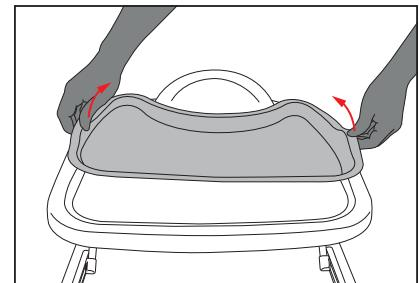

Figure 5.1
- To remove the tray insert, flex handles inward, push thumb down on the inner edge of the tray and pull up. See Figure 5.1.